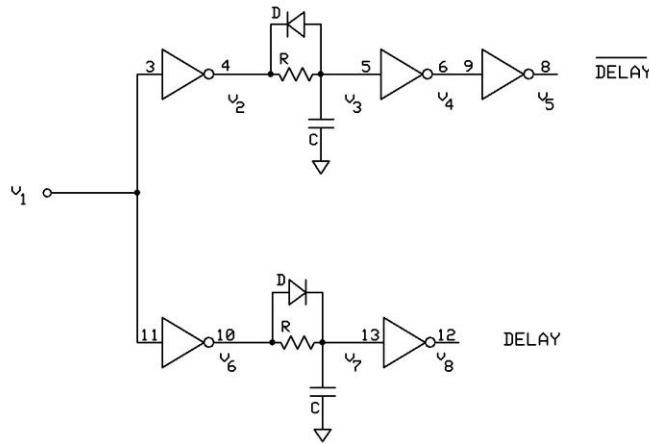

Figure 3: Delay circuit
1. Figure 3 shows a typical delay circuit. The signals DELAY and #DELAY (#DELAY signifies the inverted version of DELAY) can be used to control a pair of switches so that we "break" or open an active switch before "making" or turning on another switch. Please answer the following questions about this circuit:
- a. The circuit in Figure 3 creates a delay using two RC circuits. One of those RC circuits charges its capacitor faster. Which one? One of the RC circuits discharges its capacitor faster. Which one? Explain your reasoning in both cases.
2. Construct the circuit shown in Figure 3 using your calculated time constants and a 74LS04. **Choose  $C = 1\text{nF}$  and then choose a value of  $R$  that gives approximately the right delay.** The actual delay is the time between a high-to-low transition at DELAY and a low-to-high transition and #DELAY and vice versa. The easiest way to measure the delay is to simultaneously measure  $v_3$  and  $v_4$  and to then simultaneously measure  $v_7$  and  $v_8$ . **Ultimately, your delay should lie somewhere between approximately 700ns and 1 microsecond. The actual value does not matter. If your delays are initially outside of this range, adjustment should be easy if you use your intuition. For instance, if one of your delays is slightly less than 750ns, you should try to increase  $R$  and keep  $C$  constant.**